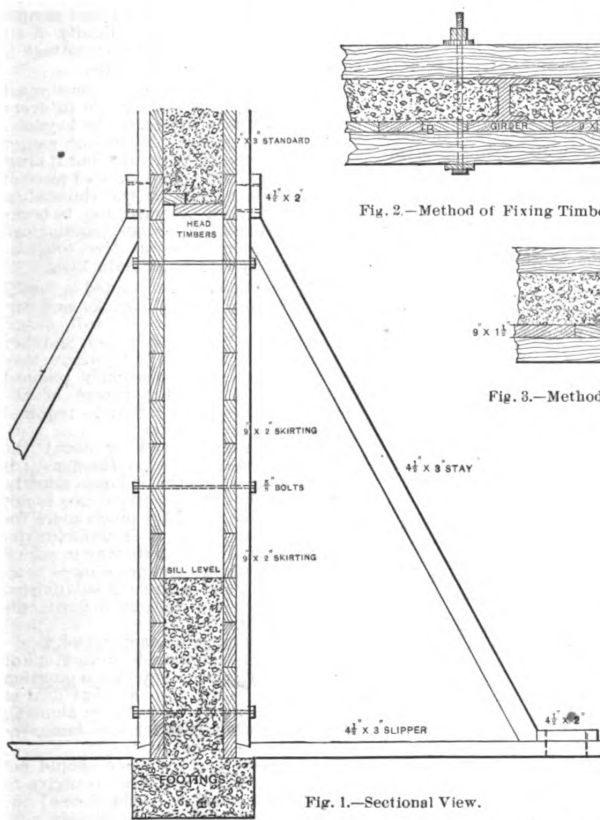
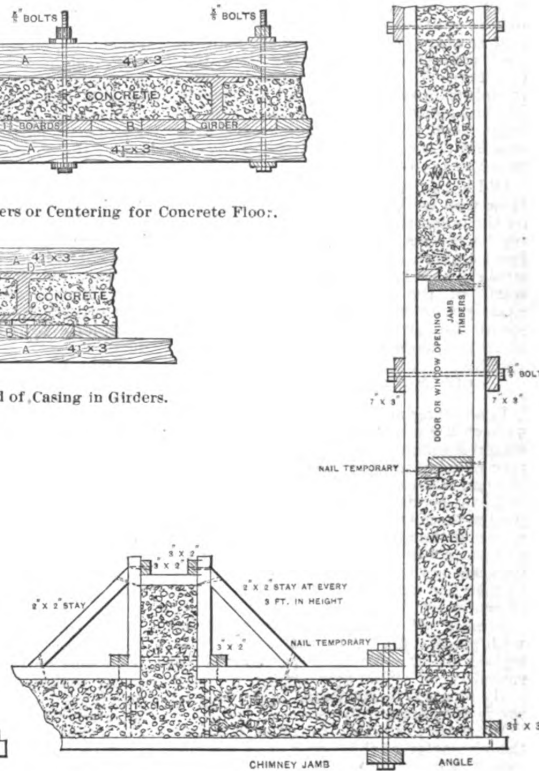

Fig. 1.—Sectional View.
Fig. 4.—Plan View of Fig. 1.
Fig. 1 of the engravings shows a sectional view of the apparatus, while Fig. 4 illustrates a plan view.
**I**N A RECENT ISSUE of one of our foreign exchanges, a correspondent presents a description of a combination table, cupboard and coal box, which is likely to prove of interest to many of our readers. The complete article, which is shown in Fig. 1, represents a pedestal cupboard about 13 inches square at the base and 2 feet 8 inches in height, these dimensions admitting of any amount of alteration necessary to suit local requirements. If intended to stand against the wall the fourth side need not be decorated, but it is preferable to ornament all the sides and then the article can occupy any posi-
Combination Table and Coal Box.—Fig. 1.—
Lay these aside and prepare two pieces, one for the inside at bottom of panel, the other for inside at top of panel. Mark off accurately upon the uprights  $3\frac{1}{4}$  inches at both ends, and proceed to glue two of the panels into position. This should be done upon a flat surface, so as to let the panels lie flush with the back of each upright, showing when finished a square corner. While this work is drying, prepare four pieces  $3\frac{1}{4}$  inches wide, scrolled somewhat, as shown at the bottom of Fig. 1, and four